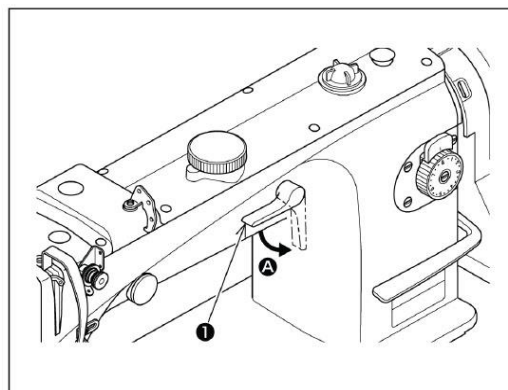

Fig.16
Turning presser bar lifting lever (1) in the direction of arrow (A) lifts the presser bar. See fig.16.